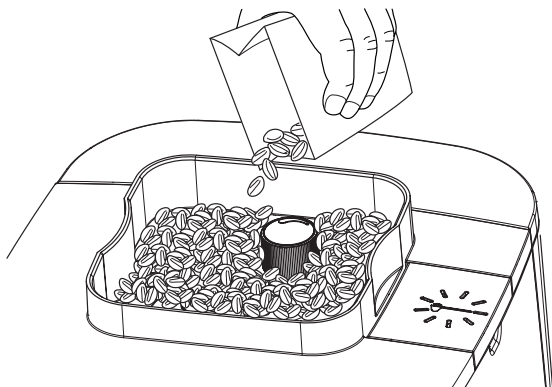

fig. 4: Loading the beans
2. Fill the bean container with coffee beans (fig. 4). Always ensure there are enough beans in the container.